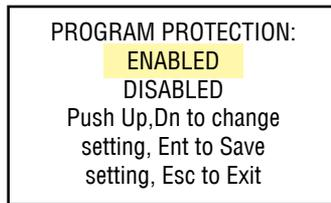
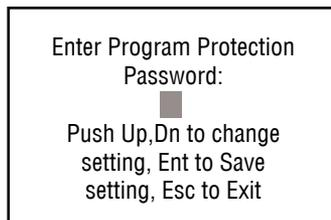

Figure 11: Program Protection Screen
Figure 12: Program Protection Password Screen
If the PP password is set to any value more than Zero, the firmware will prompt with “**Enter Program Protection Password**” (see Figure 12).
In order to get access to “**Change Program Protection (PP) Password**” menu, Program Protection must be disabled. If PP password is set to Zero (Disabled), entering PP Password is not required and PP can be disabled from “**Program Protection**” menu (see **Figure 11**). If PP Password is set to any value more than Zero, the firmware will prompt with “**Enter Program Protection Password**” (see **Figure 12**). The user must enter a program protection code (up to 3 digits). If the PP password is lost or forgotten, contact the factory or your distributor.